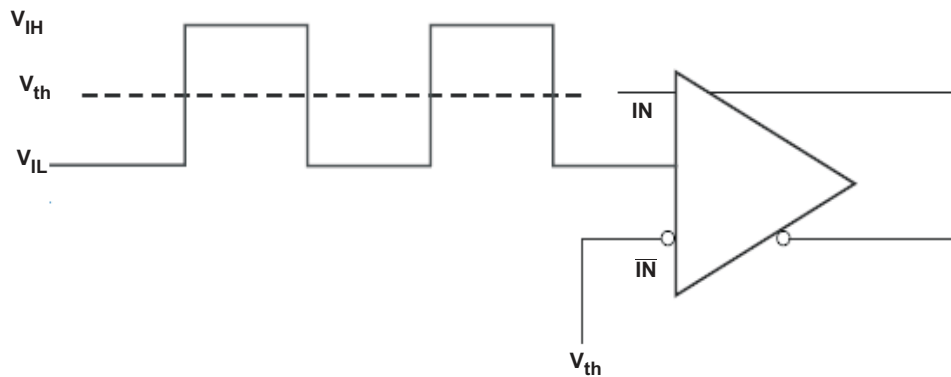

Figure 5. DC-Coupled LVCMOS Input During Device Test
2.5-V LVCMOS (SEE Figure 5) INPUT CHARACTERISTICS